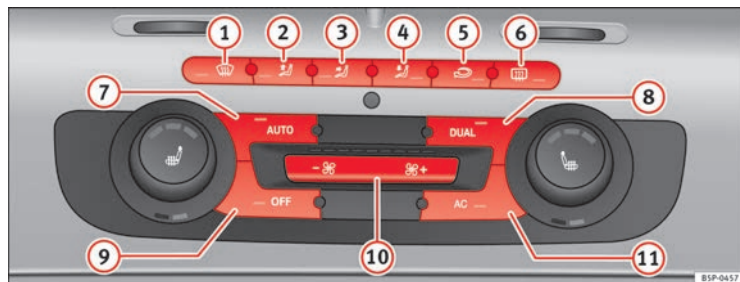

Fig. 132 On the dash panel: 2C Climatronic controls.
- To enter manual mode, press one of the buttons ⇒ fig. 132 ① to ⑤ or press the air flow control ⑩. The selected function is shown on the radio or navigator display.
- Press the button  ⇒ fig. 132  to switch air recirculation mode on or off. It is switched on if the following symbol appears in the display .